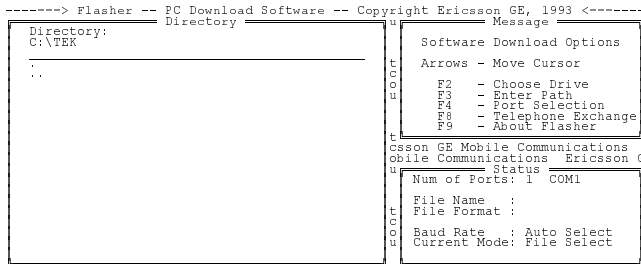
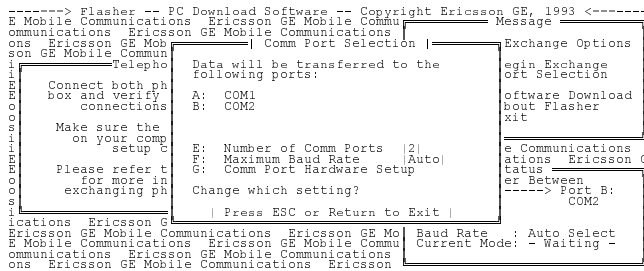

Figure 16 - Software Download
Figure 17 - Software Exchange COMM Port Selection
From the Software Download Screen, shown in Figure 16 use the **↑↓** arrow keys to highlight the proper Flash file to download. As described previously, change the Drive or Path as required.
1. From the Software Download Screen shown in Figure 16 Press **F8 - Radio Exchange** and the COMM Port Selection Screen in Figure 17 will appear.